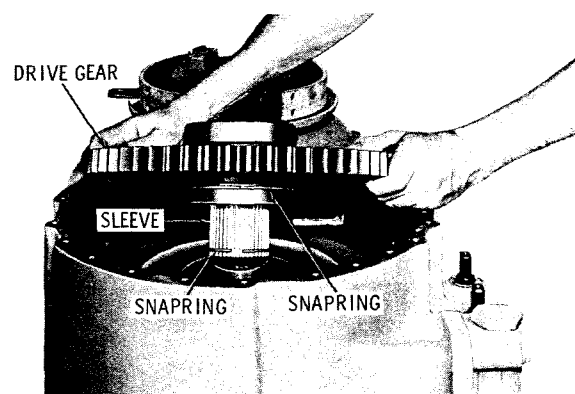

Fig. 7-6. Installing transfer drive gear assembly
(4) Install the transfer drive gear and splined sleeve, bearing with snapring first, onto the forward planetary carrier (fig. 7-6).